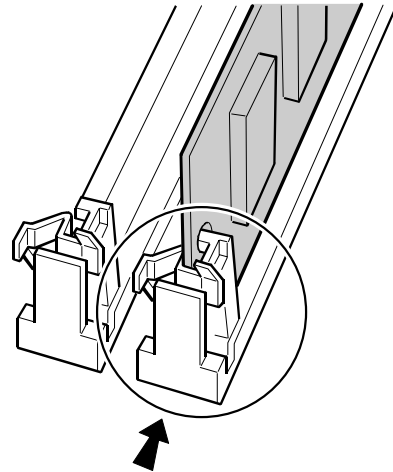

Figure 6.5.1.5.2-1. Locate the SIMM locking tabs.
2. Gently push down on the metal locking tabs while rotating the board toward the back of the slot - shown as rotating down and to the left in Figure 6.5.1.5.2-2 - until it clears the metal tabs. As it may take two hands to hold down the metal locking tabs on both sides of the board simultaneously, you may want to call for another person to assist you in this process.